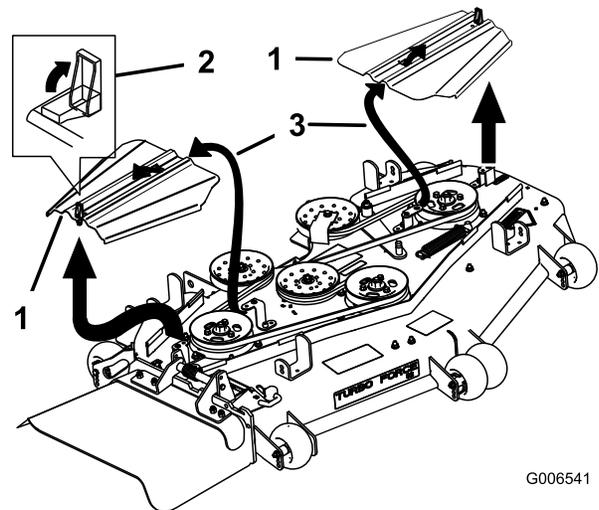

Figure 83
5. Remove the belt covers (Figure 83).